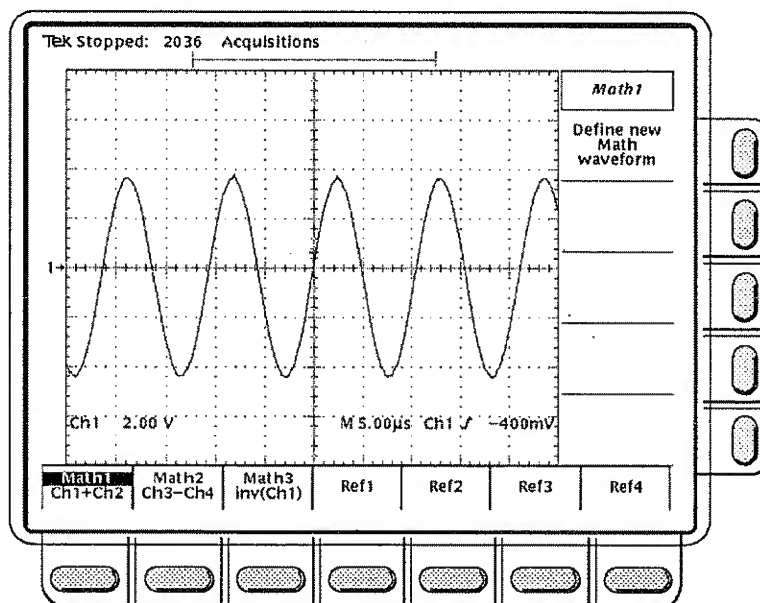

Figure 3-60: More Menu
- ☐ **Step 1:** Press the **MORE** button to bring up the More menu (Figure 3-60).